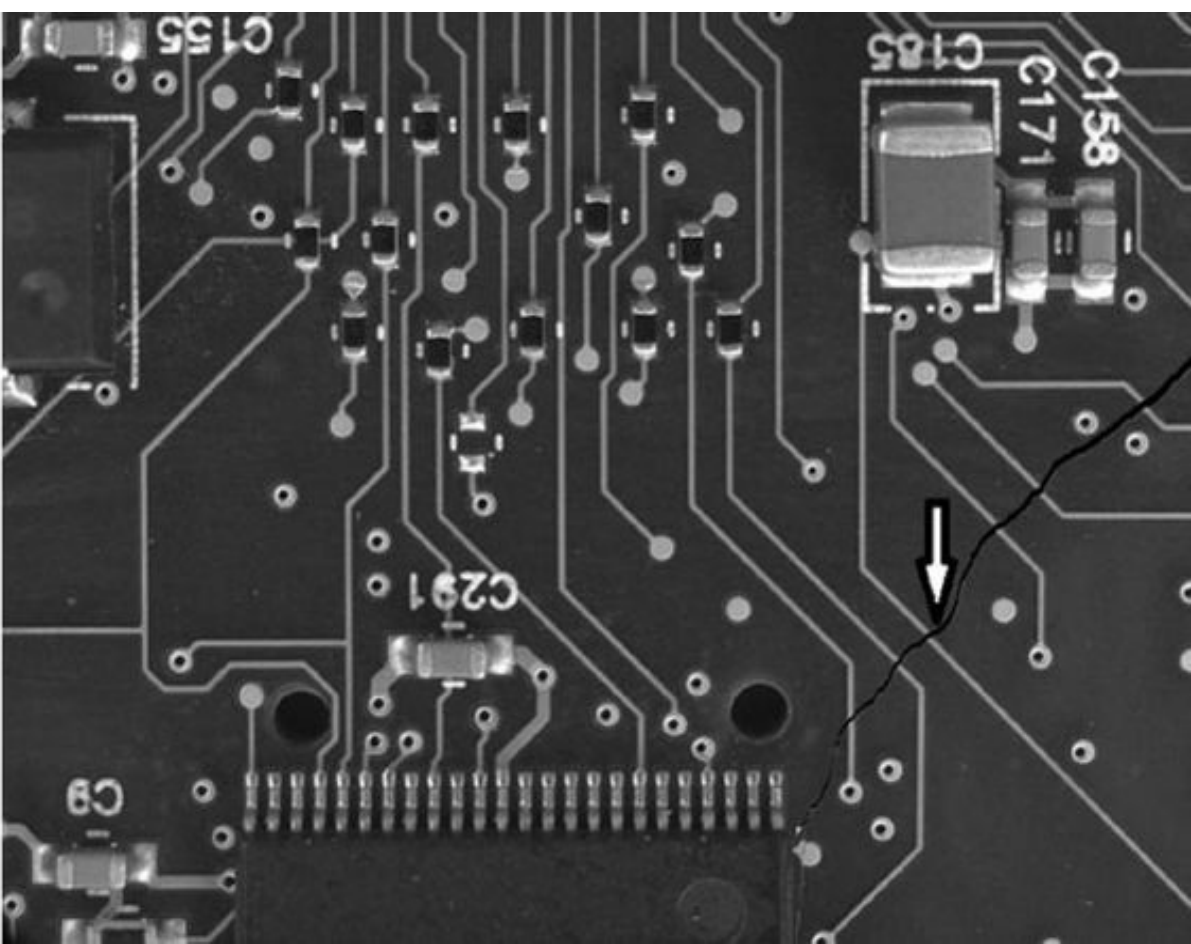

FIGURE 7.33 Cracked board.
- A circuit board can be cracked, causing opens. For example, in Fig. 7.33, the crack in a board caused discontinuities or opens across several copper traces.